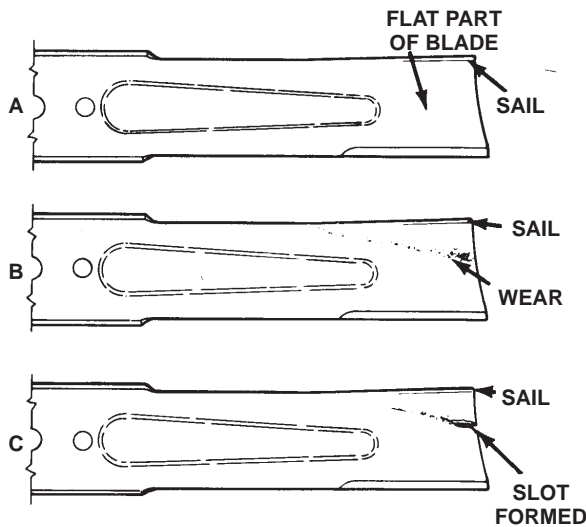

Figure 36
2. Examine the cutting ends of the blade carefully, especially where the flat and curved parts of the blade meet (Fig. 36-A). Since sand and abrasive material can wear away the metal that connects the flat and curved parts of the blade, check the blade before using the machine. If wear is noticed (Fig. 36-B), replace the blade; refer to Removing the Cutting Blade, page 24.
If the blade is allowed to wear, a slot will form between the sail and flat part of the blade (Fig. 36-C). Eventually, a piece of the blade may break off and be thrown from under the housing, possibly resulting in serious injury to yourself or bystanders.